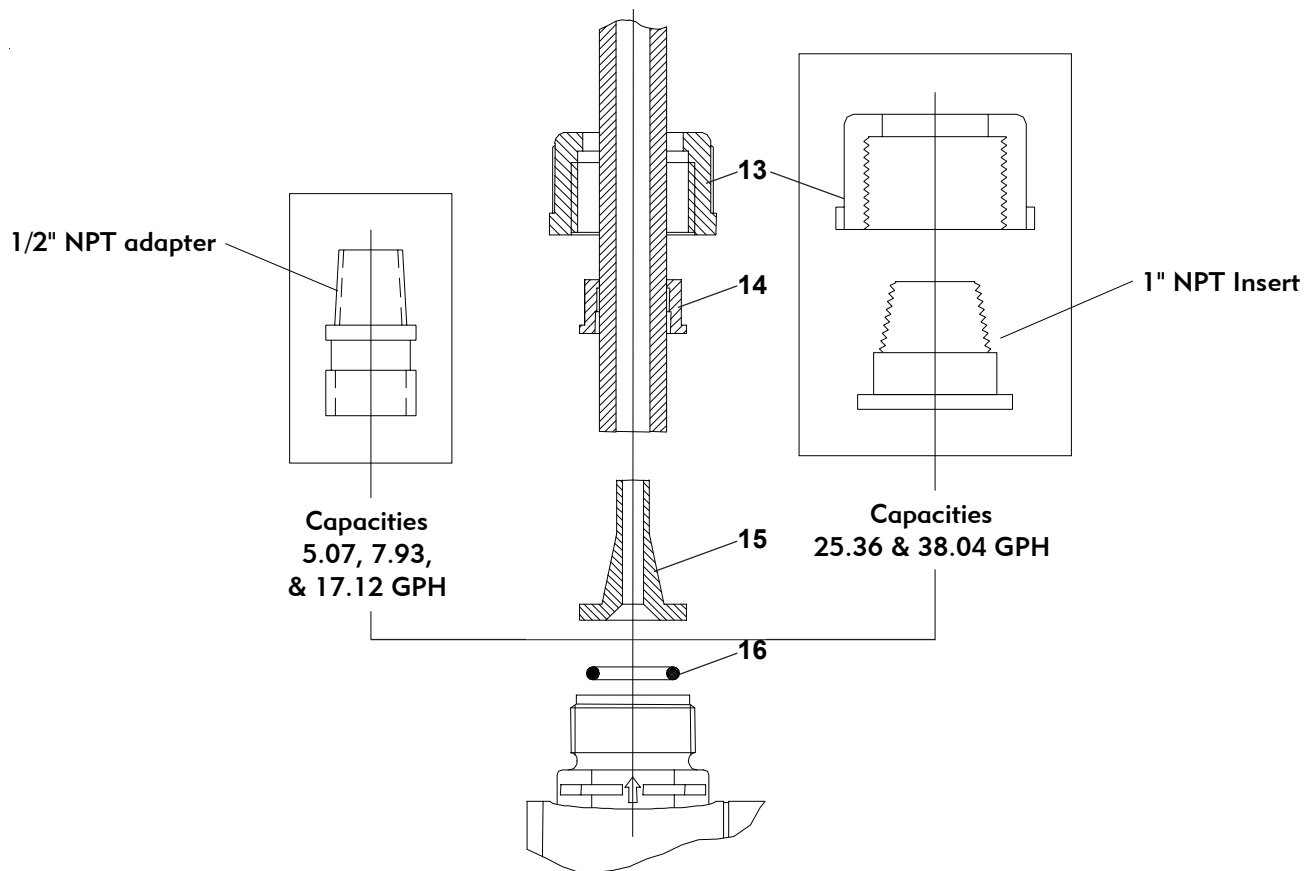

Figure 2.3 - Suction and Discharge Connections
2.5 Suction and Discharge Connection (See Figure 2.3)